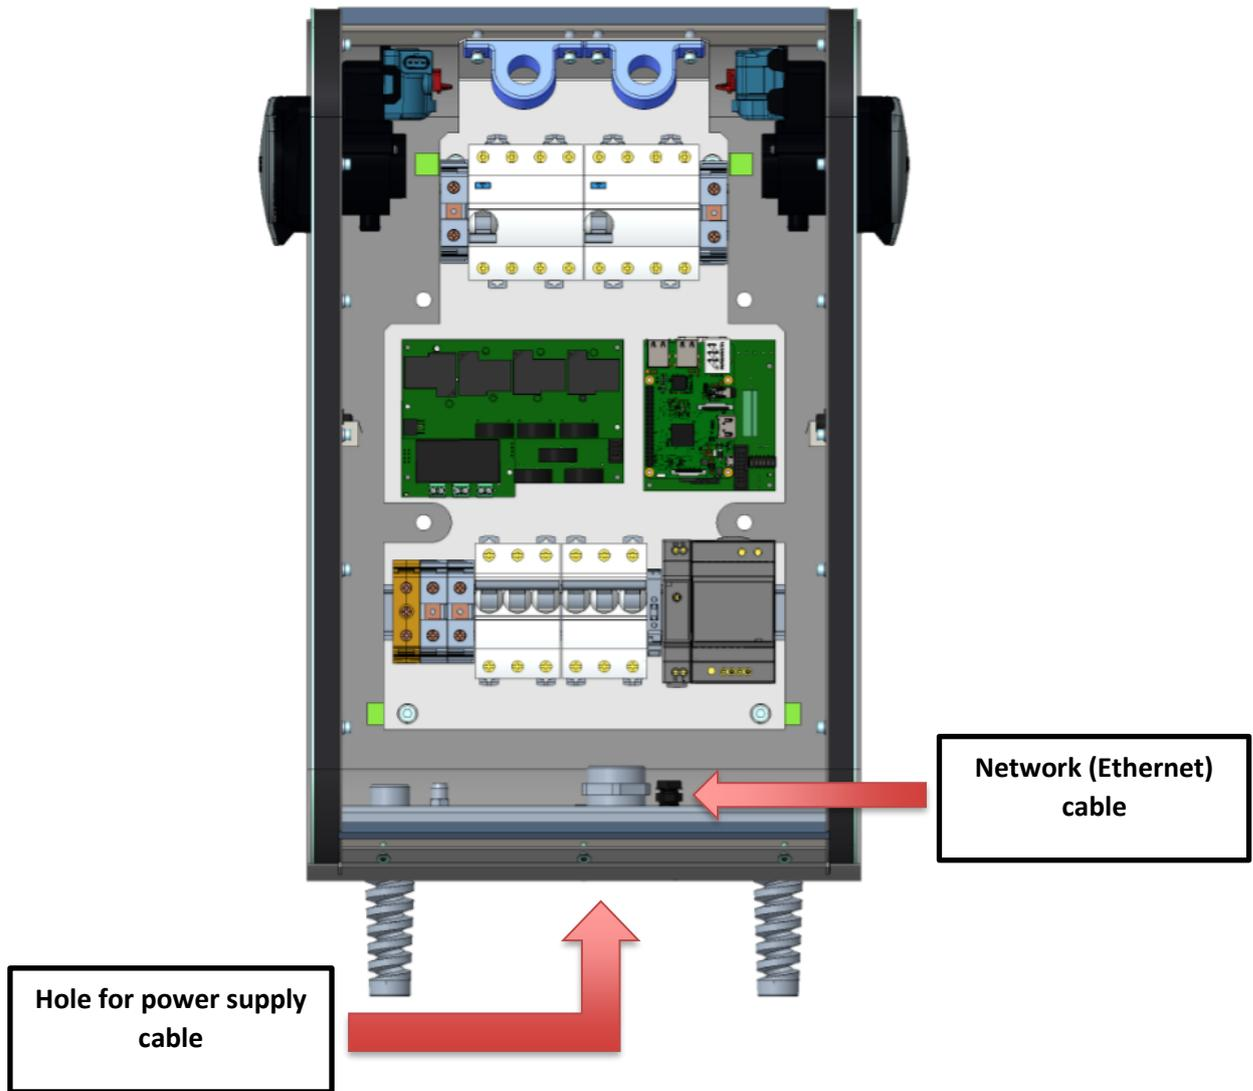

Fig. 9: Front side of opened Doubleboxu
- Fix the head (1) to the installation column, using screw (5) and washers (3 and 4)
- Pull the power supply wire through the lower middle bushing, see Figure 9.